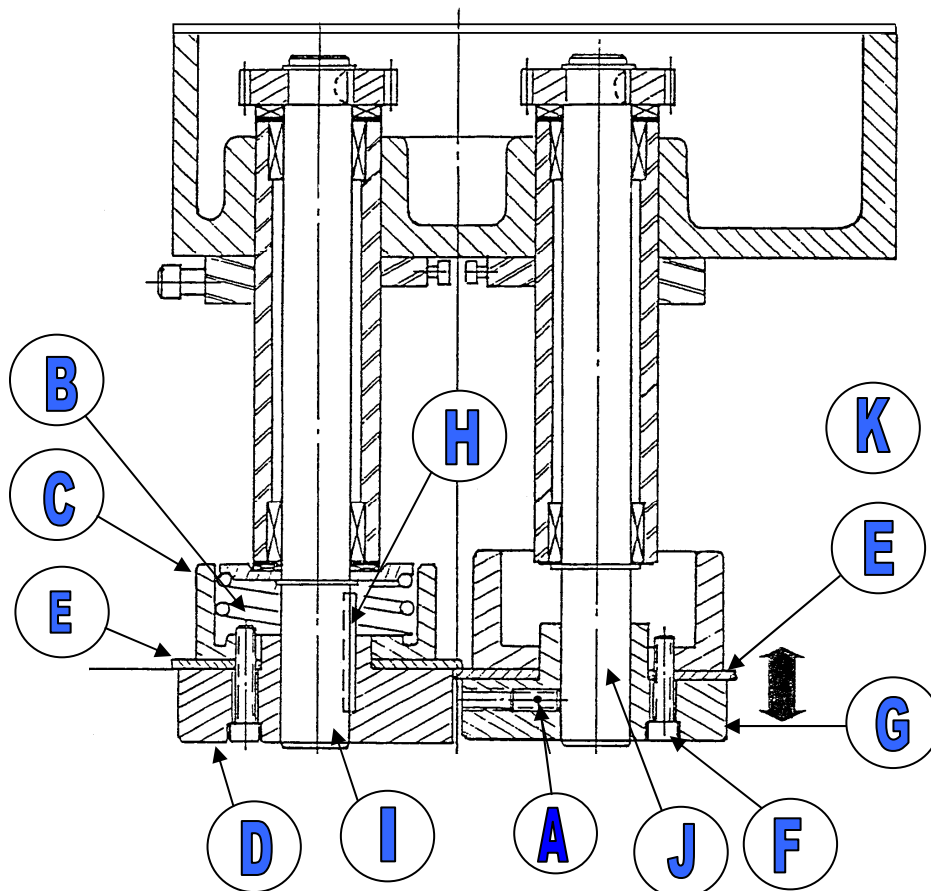

Fig: 12
6. Carefully remove the screw (A) while taking of the sharp blade, which is pushed downward by the spring (B). Both blades have now been released and can be replaced.
7. Remove the screws (F) and the blade (E) will come free. The blades are fixed between parts (D-C) and (G-K).
8. Either replace the blades or turn them over (see figure 12).
9. Remount the blades on the foreseen axles. Axle (I) is equipped with a wedge (H), while axle (J) has a flat side that corresponds to screw (A).